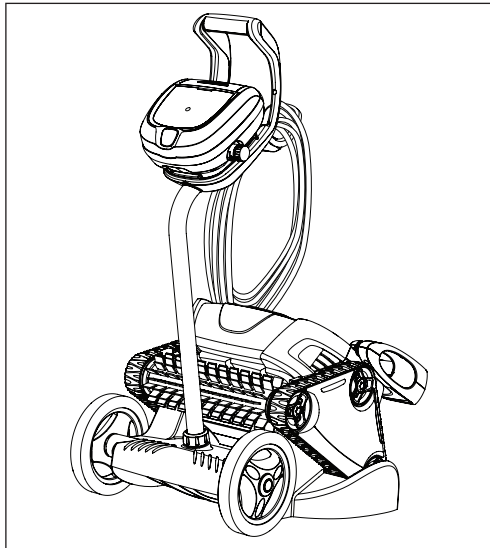

Figure 13. Cleaner Stored Correctly on Caddy
3. Loosely coil the power cable starting at the cleaner and moving toward the connection point at control unit. Store the cable by wrapping it around the hook located on the front of the caddy (Figure 13).